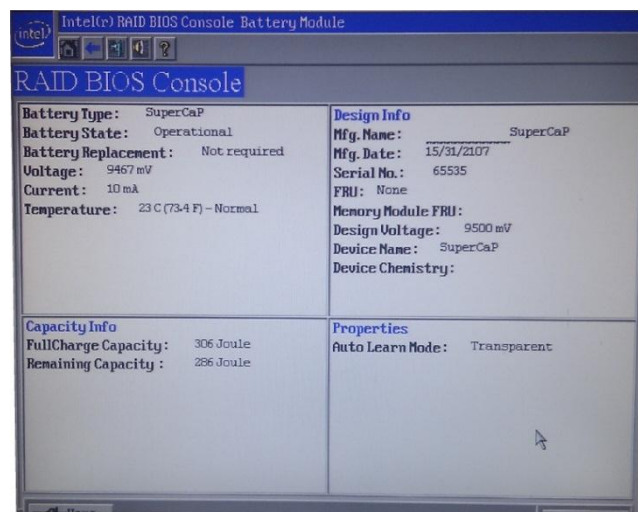

Figure 9. Monitoring the RMFBU2 with Intel® RAID BIOS Console
5. The **Battery Module** screen appears, as shown in Figure 9. This screen contains the following information: